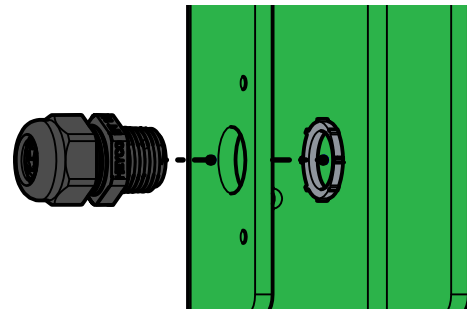

Figure 8. Strain Relief
11. Use the romex connector and lock washer and route the heater cord through the bottom hole in the pivot post (Figure 8).